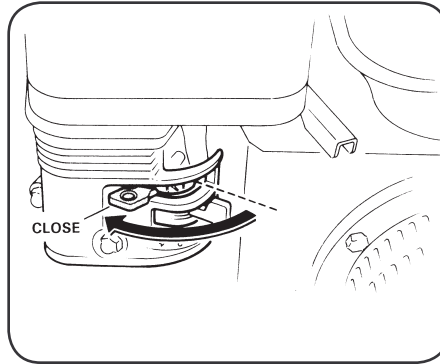

figure 6
2. Move the Choke Lever to the CLOSE position. (Fig. 6)